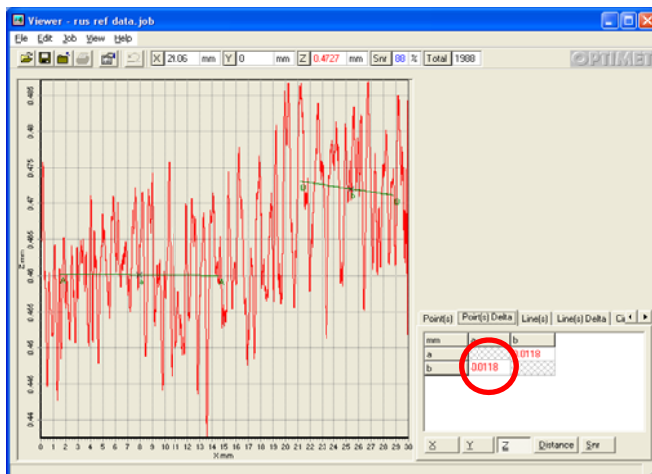

Figure 7 - Reference
- Method: Flat-surface jig half coated with spray and half without (fig.7)
- Results: Coating height is in the 10 μm range (fig. 7)